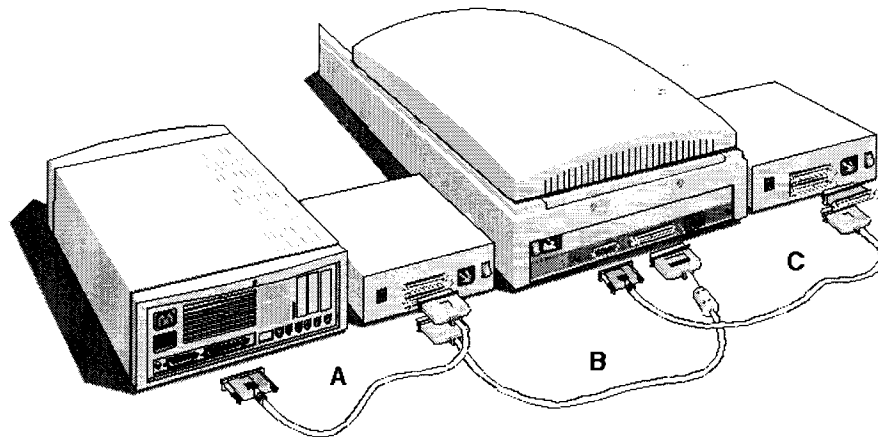

Fig. 3.3
2. Connect the 50-pin end of the SCSI cable (cable B) that is already connected to another device to the 50-pin SCSI port of the densitometer (Figure 3.3).